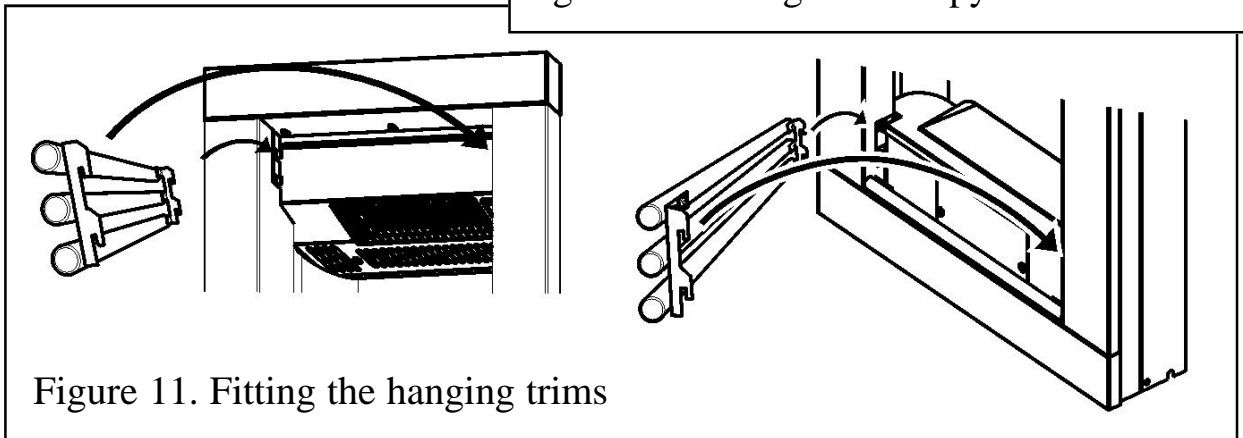

Figure 11. Fitting the hanging trims
7. Supplied in the fascia pack is a three bar trim. Hang this at the bottom of the fascia (See figure 11).